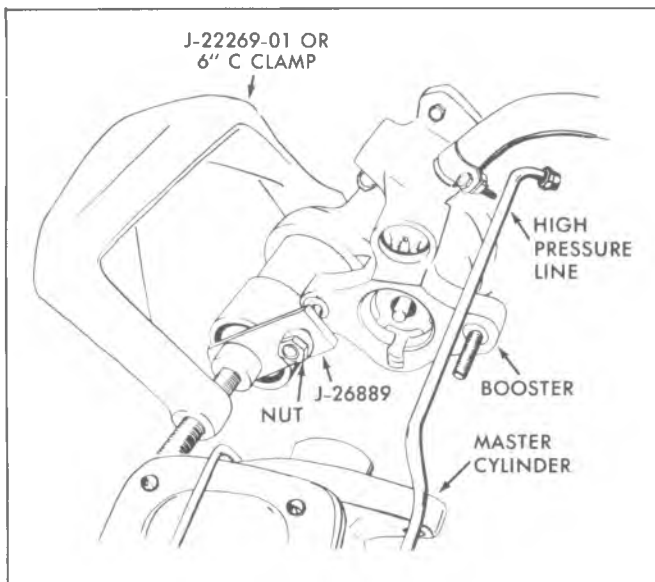

Fig. 5-6E--Compressing Accumulator With J-26889
12. Place the accumulator retaining cap Tool J-26889 over the master cylinder stud and install the nut as shown in Figure 5-6E.
minimum), depress the accumulator. Insert a punch into the hole in the housing and remove retaining ring with a small screwdriver, (fig. 5-6E).
17. Using Tool J-22269-01 or a large "C" clamp (6" minimum) depress the accumulator making certain that the accumulator is compressed straight (fig. 5-6E).